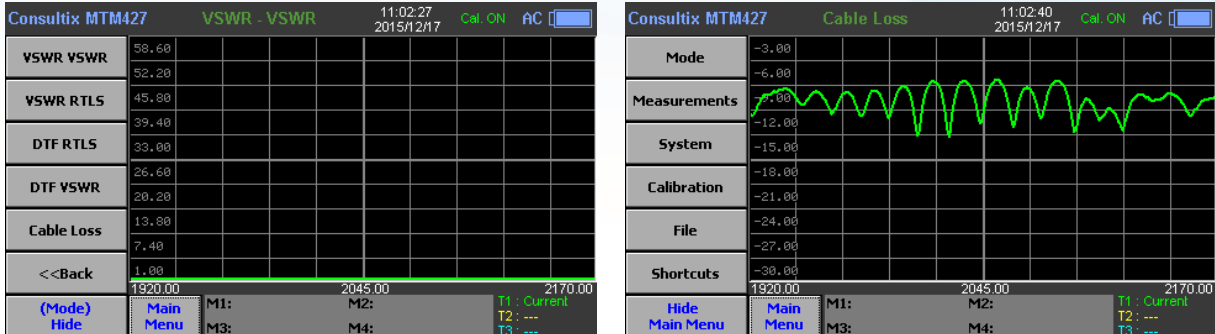

Figure 47: Cable Loss Measurement
2. **Main Menu > Mode**, select “Cable Loss” mode as shown in *figure 47*